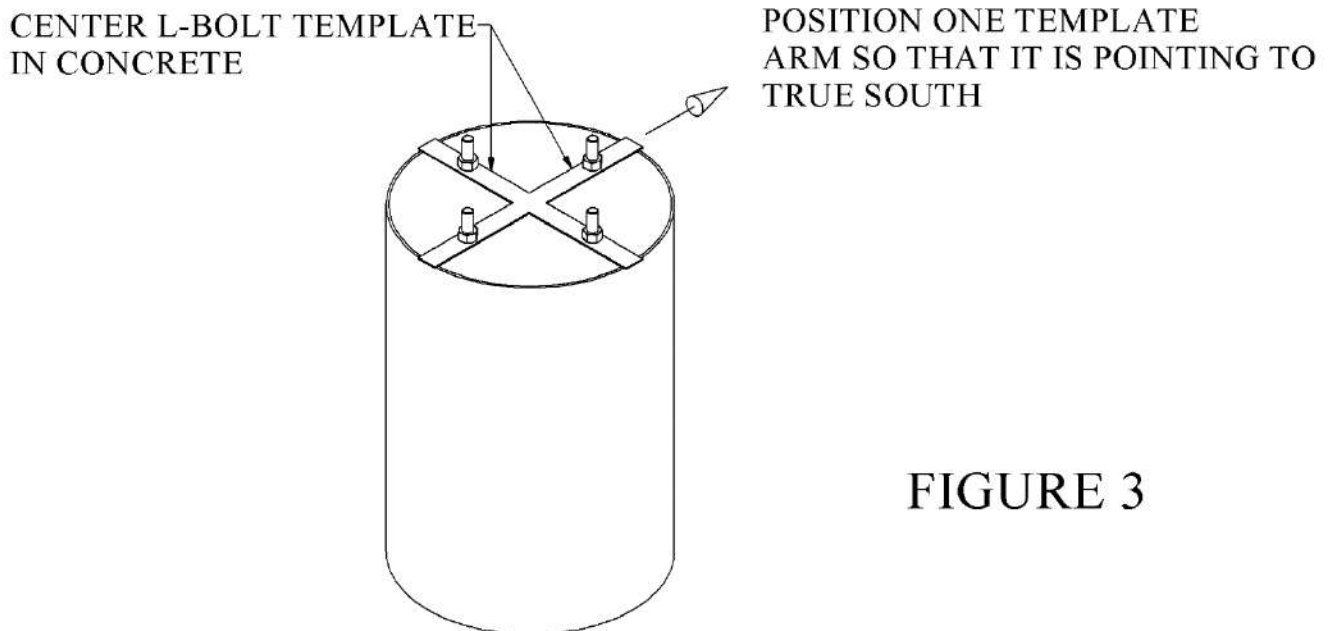

FIGURE 3
6. Insert the L-Bolt Assembly as shown in Figure 3 ensuring that one template arm is pointing to true south. Use a compass and the declination chart on Appendix-A to find true south. Note: **The Post Assembly Base Plate has slots which allows the assembly to be adjusted plus or minus 15 degrees. Ensure, after seating L-bolt template, that one template arm is within this range.**